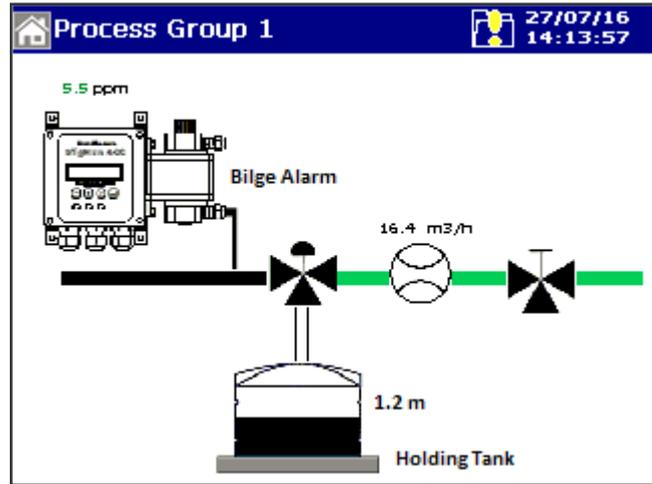

Figure 2 Example of Process Mimic
- Process Mimic – provides a visual representation of your process (see Figure 2)